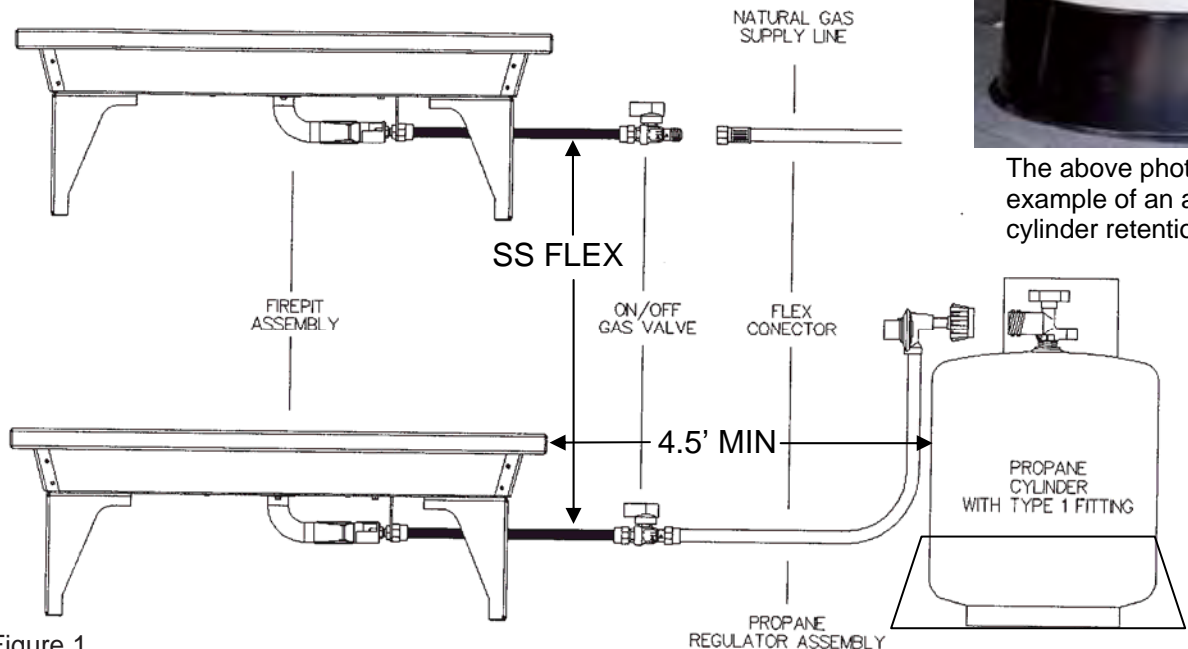

Figure 1
- C. NATURAL GAS MODELS: Connect the incoming gas supply line to the on/off gas valve of the appliance (Figure 1). Make certain ALL gas connections are tight, turn the on/off valve at the unit slowly to the on position and use soap water to test for leaks. DO NOT USE AN OPEN FLAME.
- Screw non-combustible shield to spacer. Shield must be placed 1" below top of firepit Fig:2-Ref:D. Inside corners of shields should not touch combustible wall. Shield must extend 3" past end of firepit Fig:1-Ref:E.
- All specifications as in corner installation must be used, including shield must extend a minimum of 3" past sides of firepit Fig:1-Ref:E.